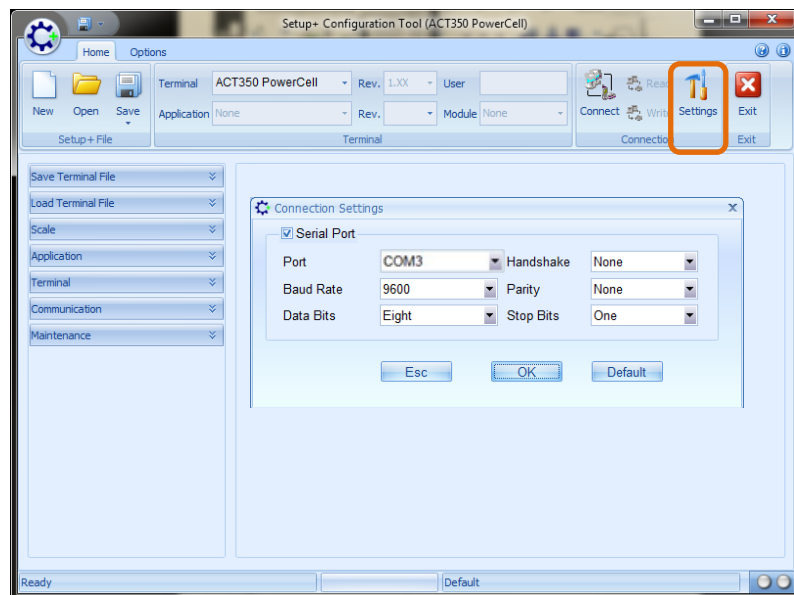

Figure 2-3: Port Settings
3. If Serial / Ethernet selections are both available, chose which type of communication should be used by checking the appropriate box (see Figure 2-3).